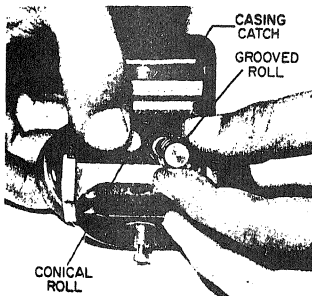

Figure 10. Inserting Drive Rolls in Shaft
c. Insert conical roll into end of conical roll shaft (Fig. 10).